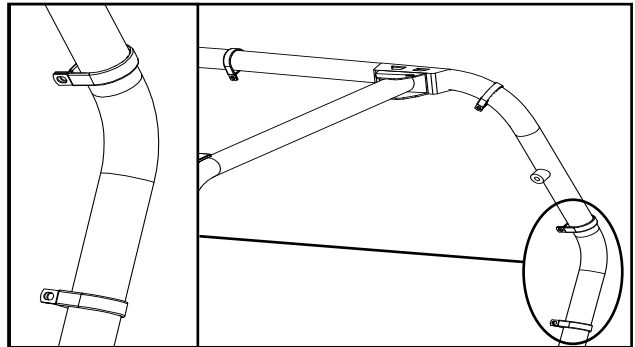

Fig. 1.1 (P-Clamp Orientation)
- 1.1 Per figure 1.1, position the (7) supplied rubber coated P-clamps around the rear portion of the ROPS.